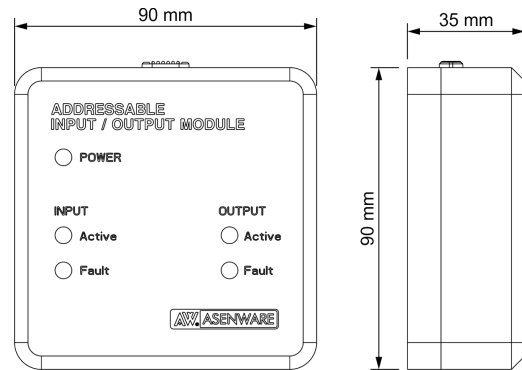

Figure 1. Dimensions
The dimensions of 90mm\*90mm\*35mm(Length\*Width\*Height), shown in Figure 1.Shown in Figure 2, Fix the shell to the wall with screws.The mounting holes diameter  $\phi 4$ mm. Please open the modules in the order shown below:
**Indicator light:** The position and sequence of the indicator light are shown in Figure 1. The indicator lights are as follows: